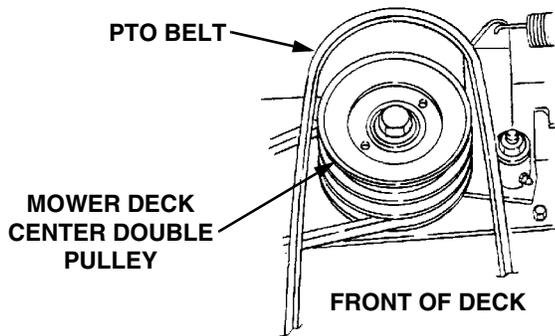

Figure 39
16. Install the rearward end of the PTO belt on the upper pulley of the deck center double-pulley (Refer to Figure 39). Ensure that the narrow side of the belt engages the groove of the upper pulley, and that there is no more than a 1/4 twist in the belt between the front pulleys and the double pulley.